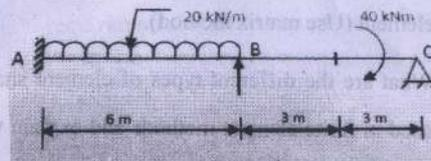

Fig. 2.
5. A two-span continuous beam is shown in Fig. 2. The moment of inertia is constant throughout. Analyse the beam by stiffness matrix method.